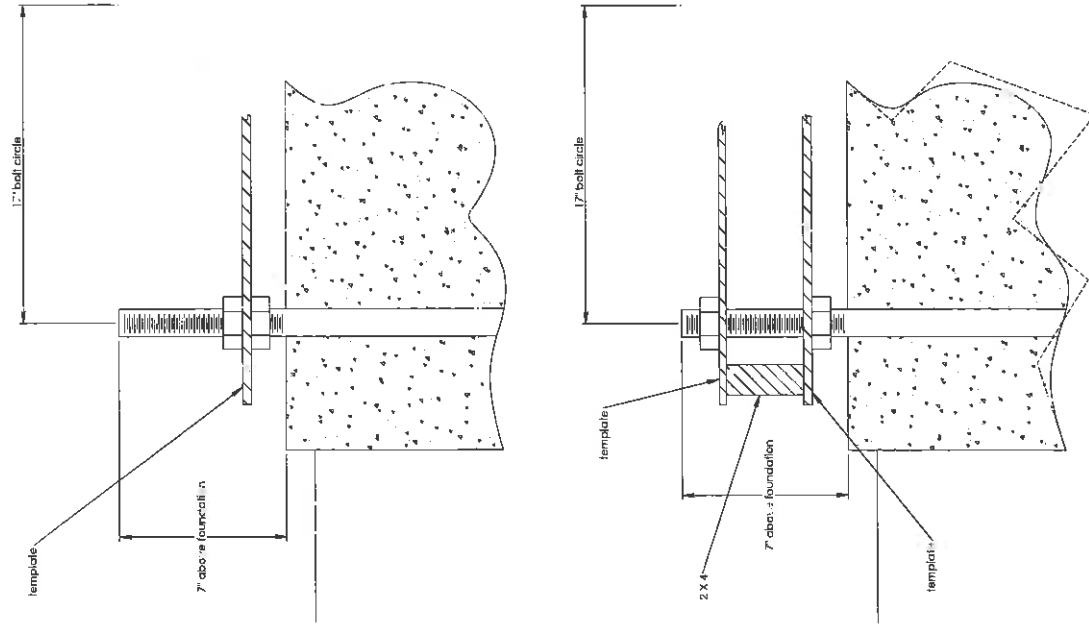

Fig. 5 "J" bolts and template (all towers)
- Two methods of framing the "J" bolts are presented in **Fig. 5**. The first method uses a single template while the second method utilizes two templates sandwiched between lengths of 2"x4" lumber. Regardless of the method be sure bolts are correctly positioned prior to pouring concrete.
- Two methods of framing the "J" bolts are presented in **Fig. 5**. The first method uses a single template while the second method utilizes two templates sandwiched between 2"x4" lengths of lumber. Regardless of the method be sure bolts are correctly positioned prior to pouring concrete.